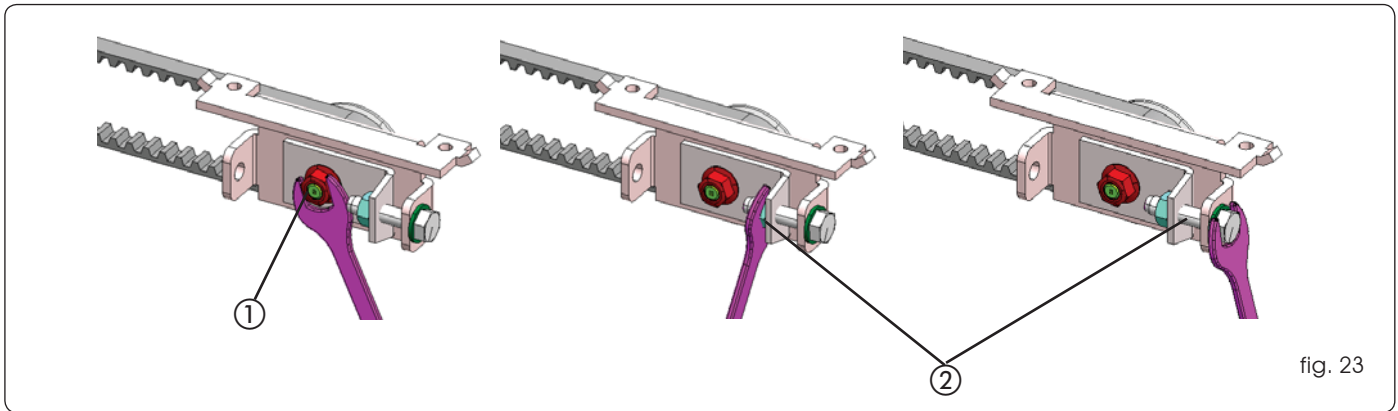

fig. 23
- Loosen the nut (Fig. 23 ref. ①).
- Turn the screw and bolt (Fig. 23 ref. ②) to tighten or loosen the belt.
- After controlling tension, tighten the nut (Fig. 23 ref. ①)